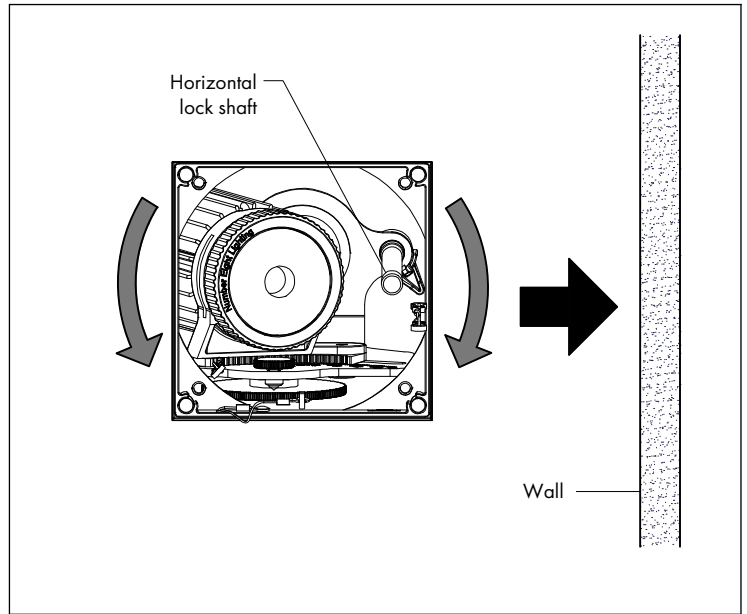

FIG 11.2 Adjust Horizontal position
STEP 2 Unlock & adjust horizontal position to aim light towards wall surface to be illuminated- **FIG 11.2**.